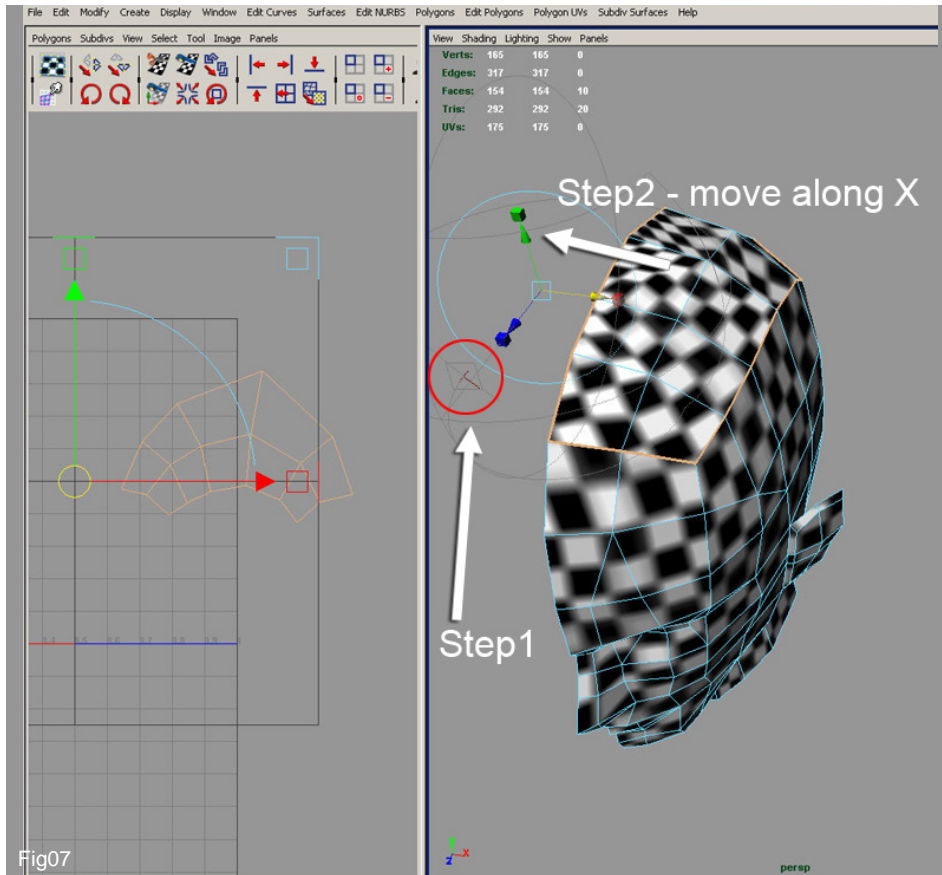

Fig07
7. Now in the “perspective” window click on “T” manipulator as shown in Fig07 (Step 1) then move along X direction (Step 2) until it seems to fit with the rest of the head. Now we’re going to fit perfectly by sewing those two parts in “UV Texture Editor” window.